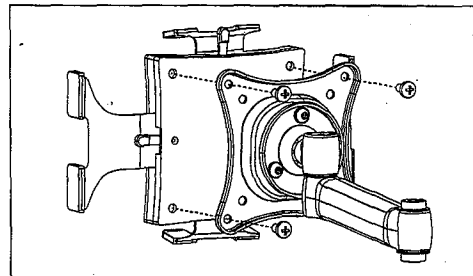

Fig. 1
- 1 Attach the tablet mount adaptor to the VESA 100 x 100 mount by M6 x20 screws (A) as shown (see Fig. 1). Do not over-tighten these screws